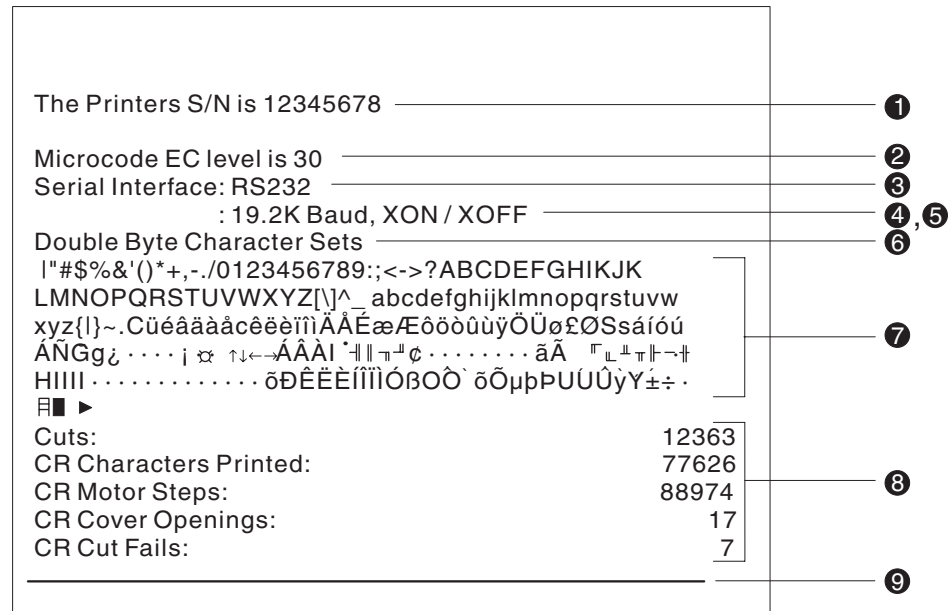

Figure 31. Offline Printer Test Pattern – Models TF7 and TM7
5. See Figure 31 on page 69 and verify that your printer has printed correct information for your model and configuration:
If any characters that appear in Figure 31 on page 69 are missing from the test pattern you print, or if the solid line is missing, go to Table 7 on page 70.